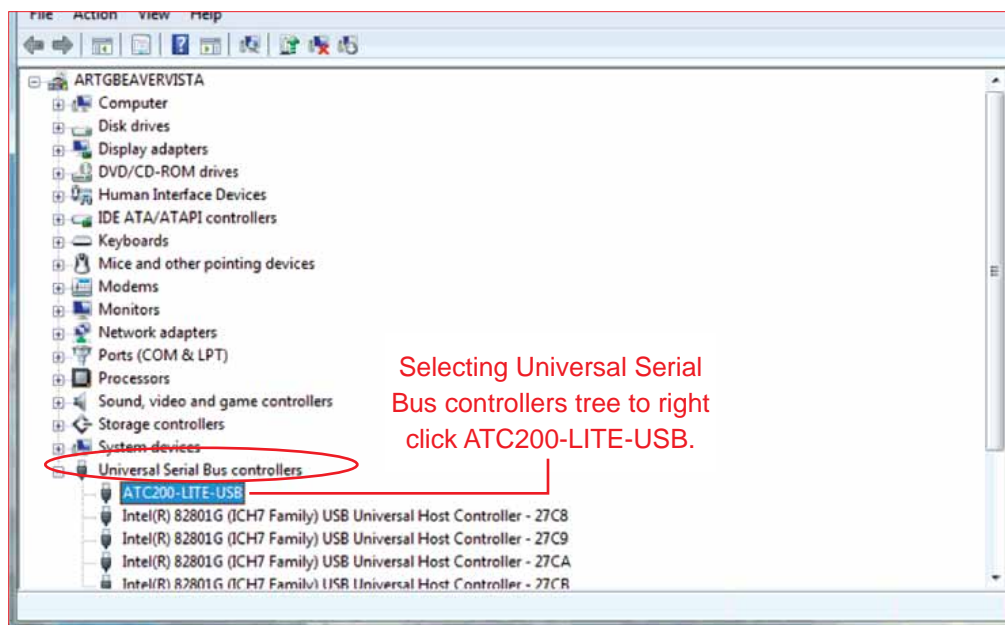

Figure 13-2. Selecting ATC200-LITE-USB.
5. Open **Universal Serial Bus controllers** tree (Figure 13-2).
6. Note that a yellow dot with an exclamation point may appear to the right of **ATC200-LITE-USB**. This indicates that Windows does not know what the device is. You may also see a tree branch called **Other**. The **ATC200-LITE-USB** may also appear under that branch. Right click on **ATC200-LITE-USB** (Figure 13-2).